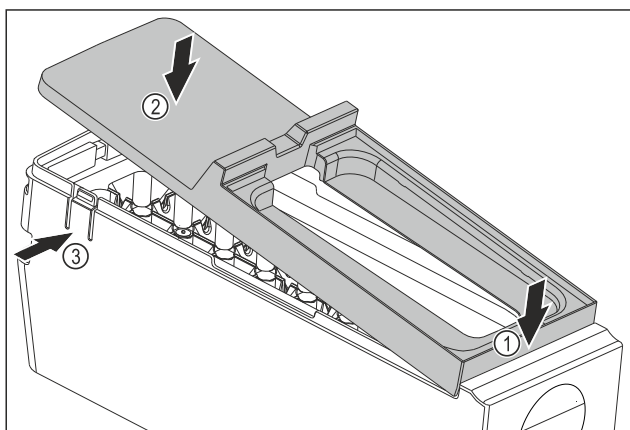

Fig. 99
- Installing the EasyTwist-Ice body cover: Place the cover on the front. Fig. 99 (1)
- Lower the cover at the rear. Fig. 99 (2)
- ▷ The cover locks into both tabs Fig. 99 (3) audibly.